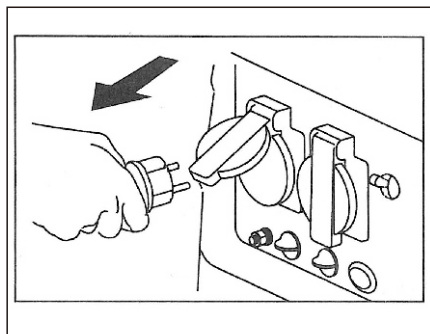

Fig. 4G
1. Turn off all electrical devices prior to unplugging them from the generator. Unplugging running devices can cause damage to the generator. (Fig. 4G)